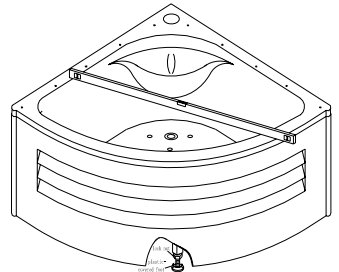

Fig.2
- 2) Move the bathtub to the scheduled position, level it with the level gauge. The level gauge should be put on two each other vertical positions at least, make the air of the level gauge in the center through regulating the adjustable bolts under the basin. After leveling, screw the lock nut tightly. Move the basin that has been leveled to the place about 400mm apart to the wall. As fig.2